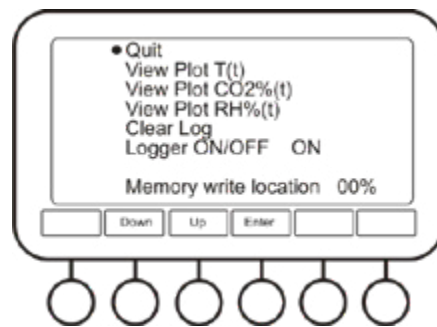

Fig. 12. Data Logger
4.9.5. **Data Logger** (fig. 12). Data logger features following options: View Plot T(t), View Plot CO₂%(t), View Plot RH%(t), Clear log, Logger on/off.